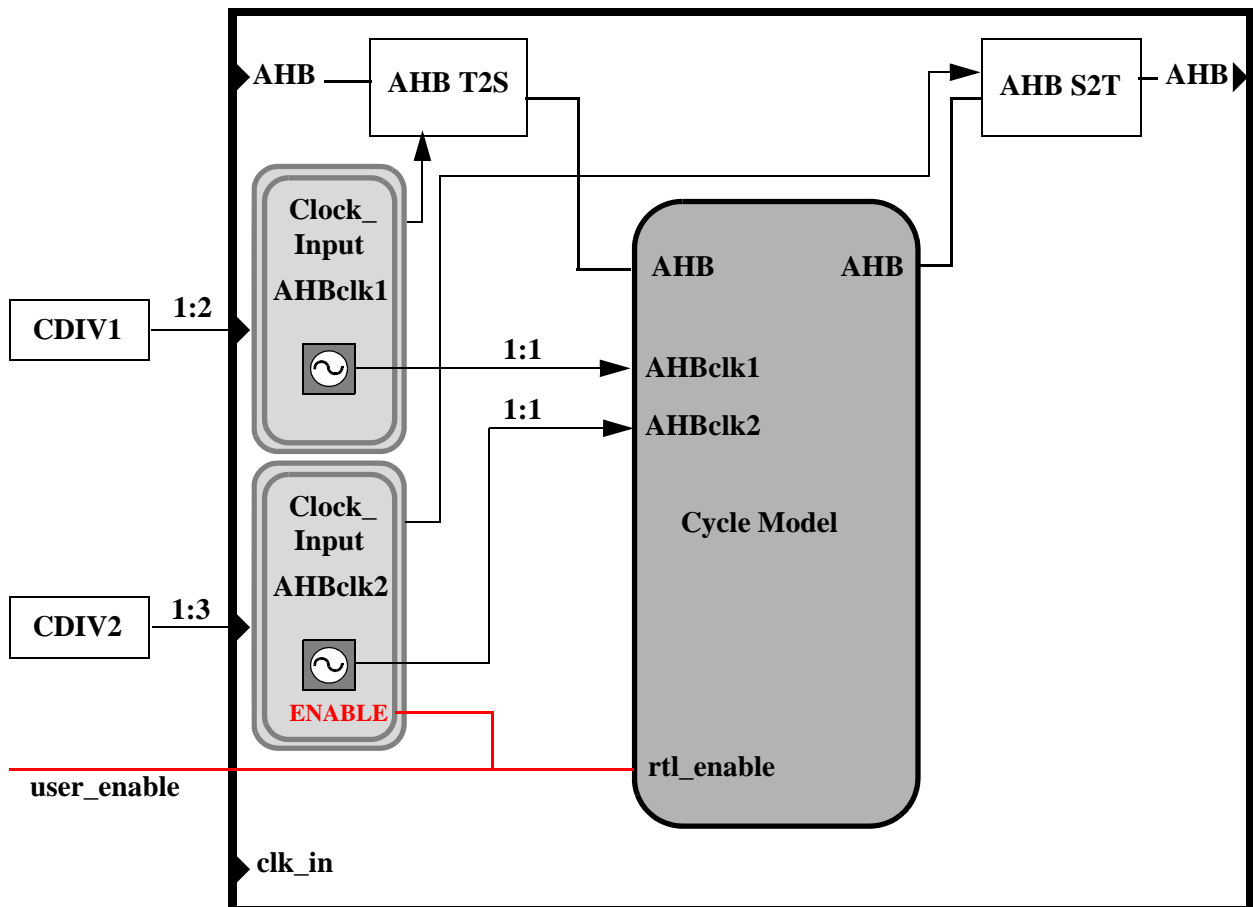

Figure A-4 Use of the Enable pin
1. Create a top-level component signal slave port to act as the Enable for the Clock_Input (in Figure A-4, **user_enable** is the signal slave port).
2. Connect the new signal slave port to a scalar enable input signal to the RTL. This requires the RTL to use the Enable signal to qualify execution of the RTL code. In Figure A-4, the RTL signal is named **rtl_enable**.
3. Drive the top-level Enable signal (**user_enable** in Figure A-4) from the SoCD Canvas.